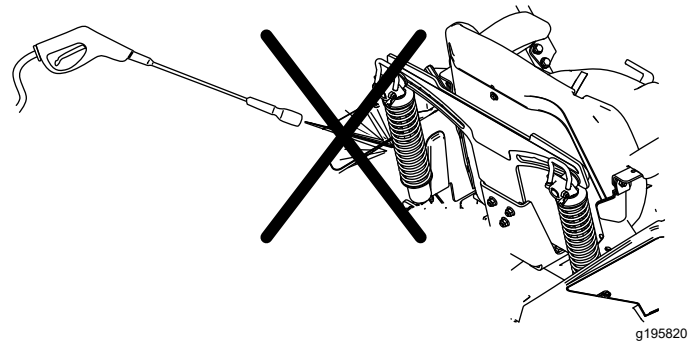

Figure 126
**Note:** Do not clean the shock assemblies with pressurized water (Figure 126).